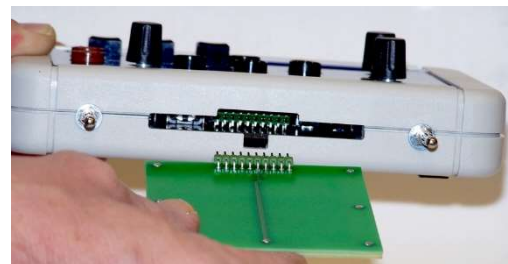

Fig. 5: Insertion of circuit board
- Insert the circuit board into the attachment on the console until the contact pins slot into the multi-pin socket. Make sure the circuit board is correctly aligned (see Fig. 5).